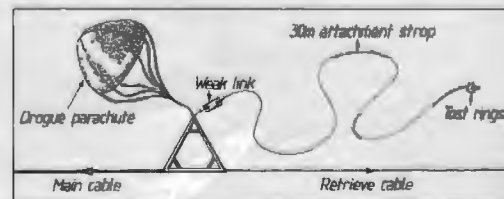

Fig 1. The layout of the connecting triangle.
7. A suggested method of a three-point cable connection is at the apices of a specially fabricated tubular triangle. (See Fig 1).